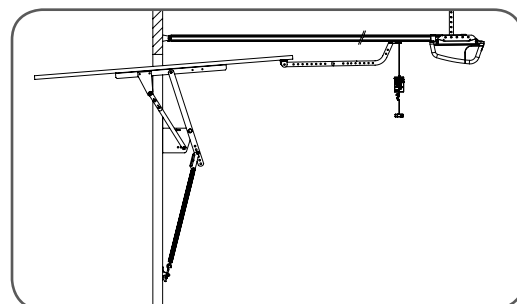

fig 21
- Assemble the bent and straight arms as shown in (**Fig. 21**) with bolts and nuts supplied in the accessory pack. Always use both the bent and straight arms.